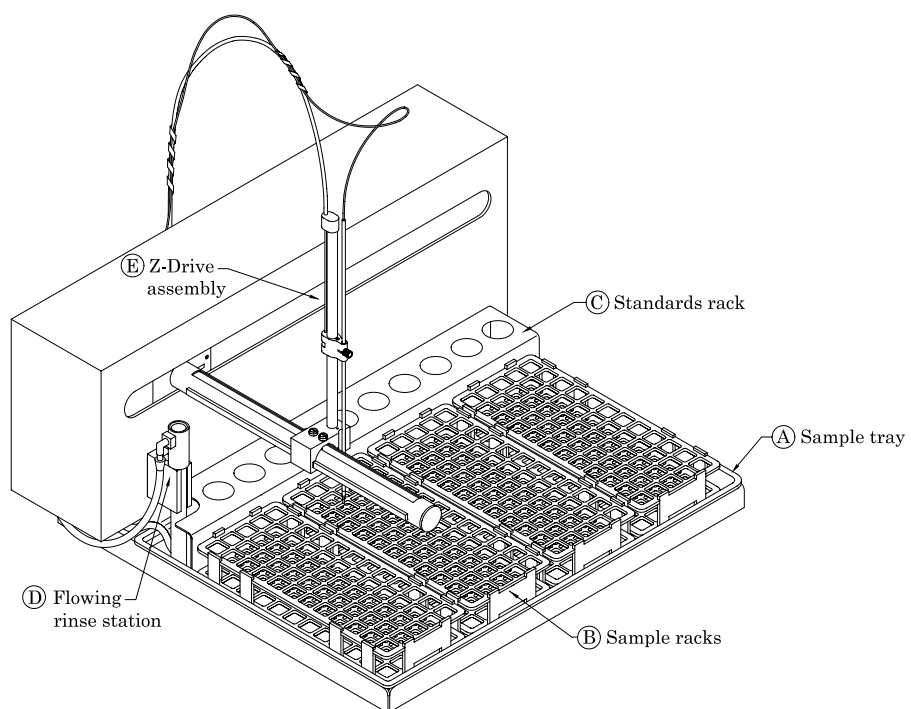

Figure 1-1. ASX-520 Auto Sampler—Front View.
The following standard components are located on the front of the ASX-520 and are shipped with the Auto Sampler. Each lettered item corresponds with a callout in Figure 1-1.
- 5 Verify that the probe tip clears the top of the rinse station when the Auto Sampler is in the home position (Figures 1-1, 3-1) above the rinse station.**